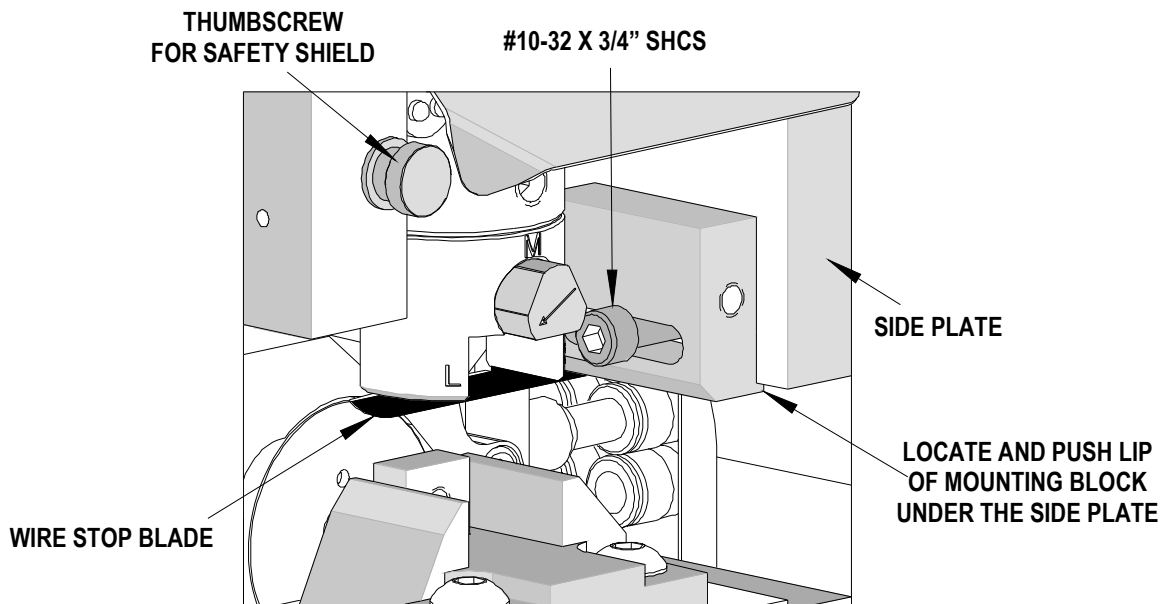

Figure 3-4
2. Position the wire stop assembly on the inside wall of the right side plate. Be certain the lip of the support block locates under the edge of the side plate and secure with the #10-32 x 3/4" SHCS into the far #10-32 tapped hole. See Figure 3-4.